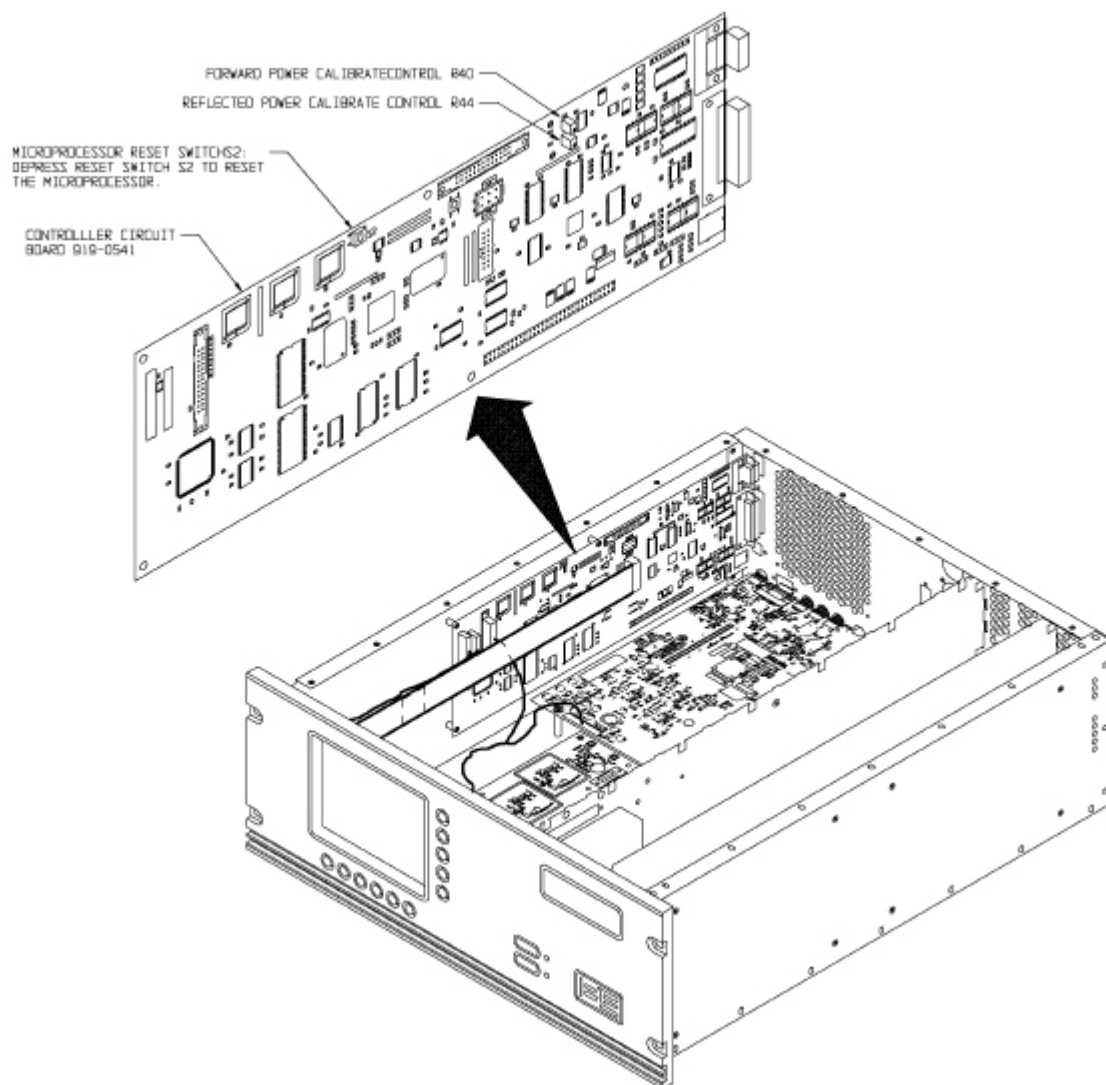
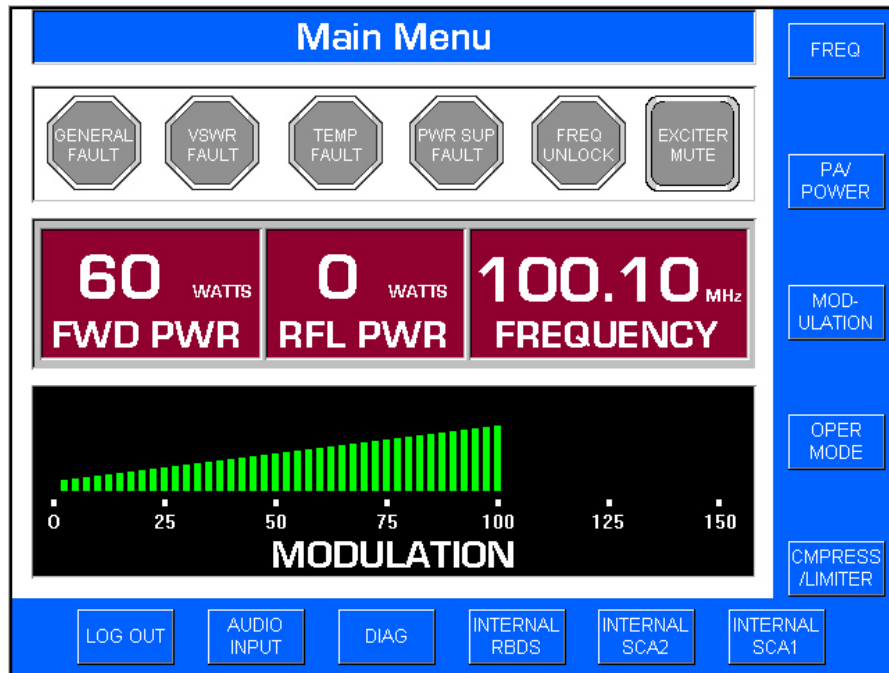
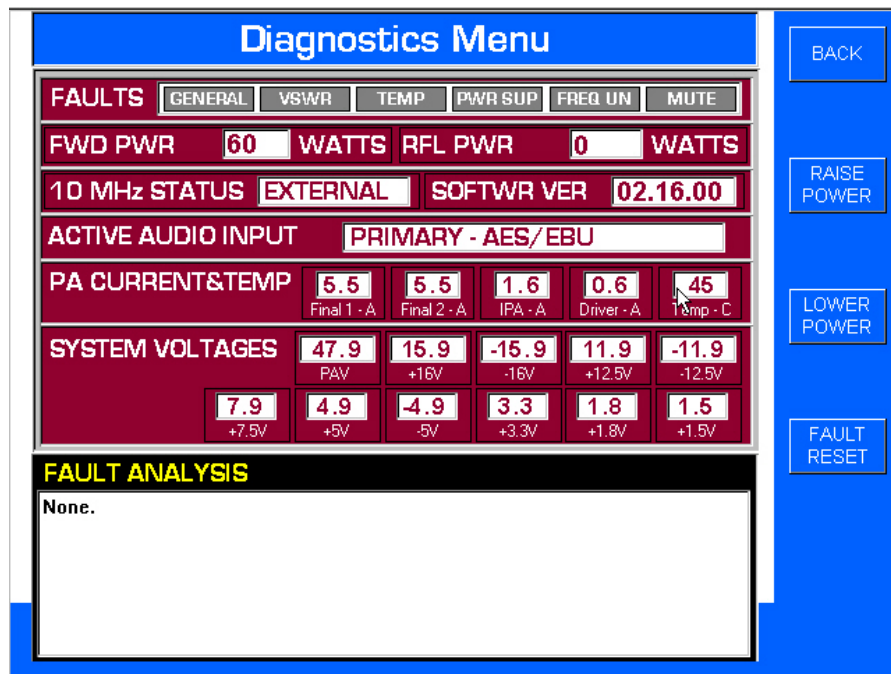

Figure 5-1. CONTROL CIRCUIT BOARD CONTROLS
Figure 5-2. MAIN MENU
Figure 5-3. DIAGNOSTICS MENU
FORWARD POWER CALIBRATION. The forward power circuit on the controller circuit board is calibrated by adjusting forward power calibration control R40 (refer to Figure 5-1). This control is to be adjusted only when the exciter PA module is replaced. To calibrate the forward power circuitry, proceed as follows:
5. Refer to Figure 5-1 and adjust forward power calibration control R40 to adjust the output power on the wattmeter to equal the value displayed on the Main Menu FWD PWR display (Figure 5-2).
The FXi is equipped with a fault display on the Main Menu (refer to Table 5-1 and Figure 5-2). The display presents general and specific fault conditions such as a temperature fault. In addition, fault information and status information for many FXi operating parameters is presented in the Diagnostics Menu (refer to Table 5-2 and Figure 5-3). The Diagnostics Menu presents the status of several operating parameters such as the 10 MHz reference, power amplifier module voltages and currents, and power supply voltages. A fault analysis display presents a description of the possible fault condition.